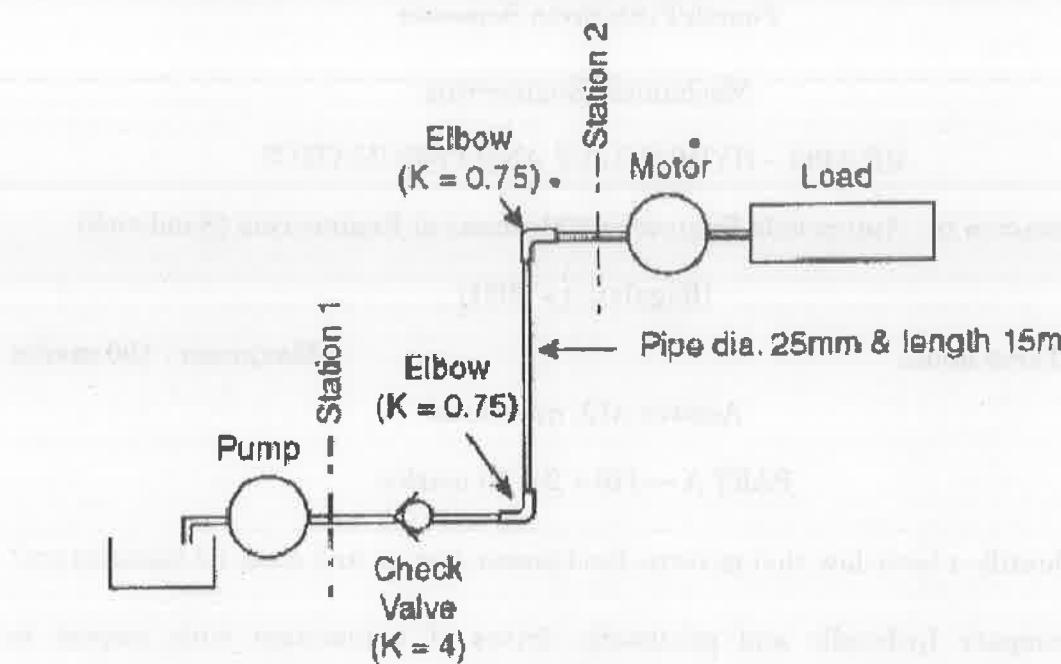

Fig 11 (a)
11. (a) The system shown in Figure 11 (a) contains a hydraulic pump delivering high pressure oil of specific gravity 0.9 and kinematic viscosity $1.25 \times 10^{-4} \text{ m}^2/\text{s}$, to a hydraulic motor. A 25 m pipe of internal diameter 30 mm and thickness of 10 mm connects the pump and motor. The pipe has two elbow fittings ($k = 0.75$) and one check valve ($k = 4.0$). The motor is placed 10 m above the pump. The pressure required to drive the loaded motor is 40 bar. Determine the pump discharge pressure, if the discharge from the pump is 180 lpm